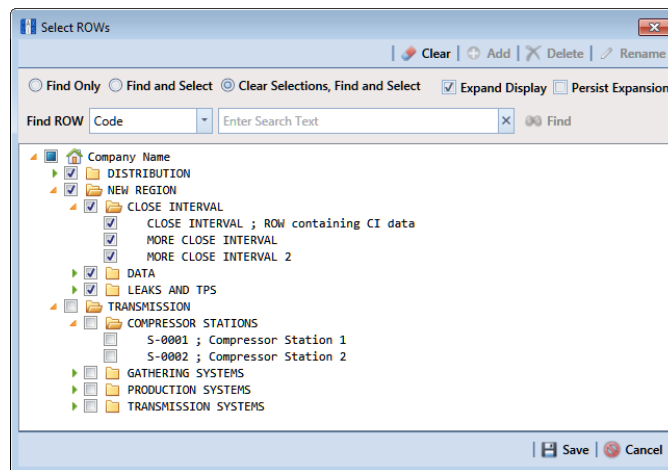

Figure 8-22. Select ROWs
- 2 Select one or more pipeline segments in the *Select ROWs* window (Figure 8-22). Select pipeline segments with facilities you plan to include in an averaged reading survey. Click  **Save** to close the window.